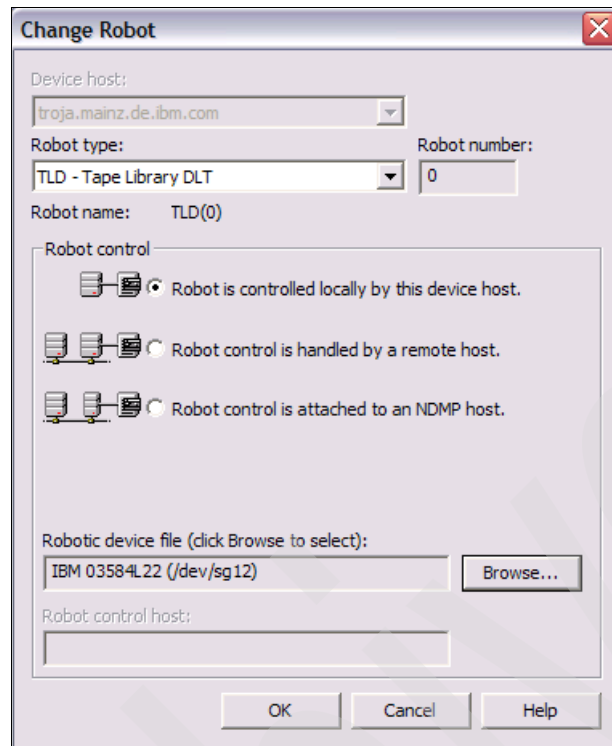

Figure 10-15 Change Robot device file
2. On the *Change Robot* panel (Figure 10-15) we still see the wrong device path. Click **Browse** to change the device file.
3. On the next panel we select now the proper device file /dev/sg9, as shown in Figure 10-15.